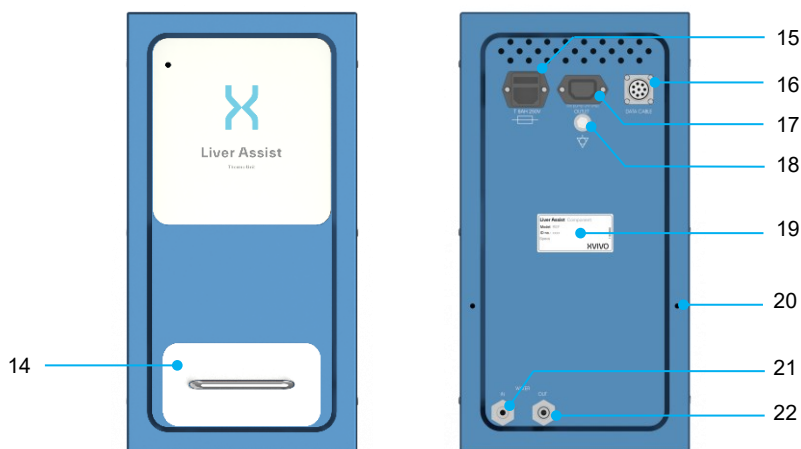

Figure 5 Front and rear view of the Thermo Unit
- Fill the water reservoir of the Thermo Unit (Figure 5, item 14) with approximately 3 liters of demineralized water.